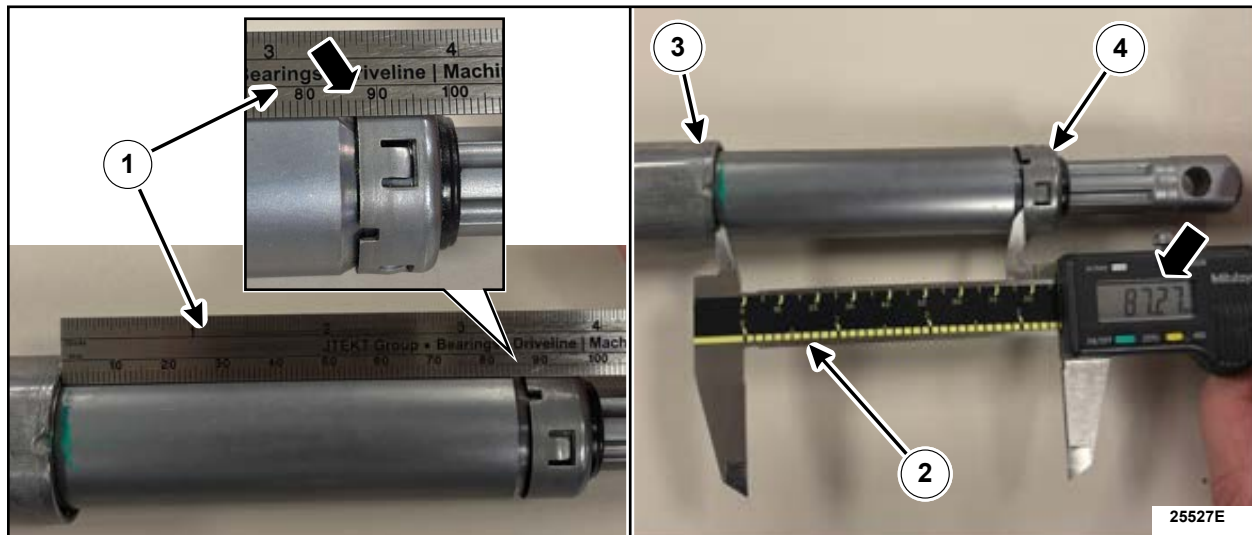

FIGURE 3
4. Measure the center tube of the steering column upper shaft between the end of the dust cap to the start of the outer tube. See Figure 3.